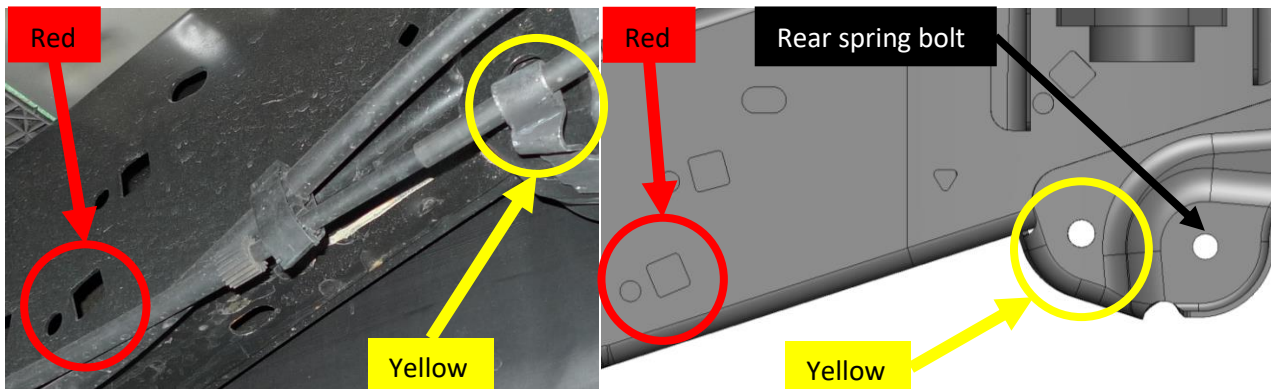

Figure 33 - Medium Horn Bracket Mounting Points
10.10.2. Attach RAPTOR-302 to vehicle frame using hardware #2, #3, #5, #7, & #12 for mounting point shown circled red in Figure 33 above.